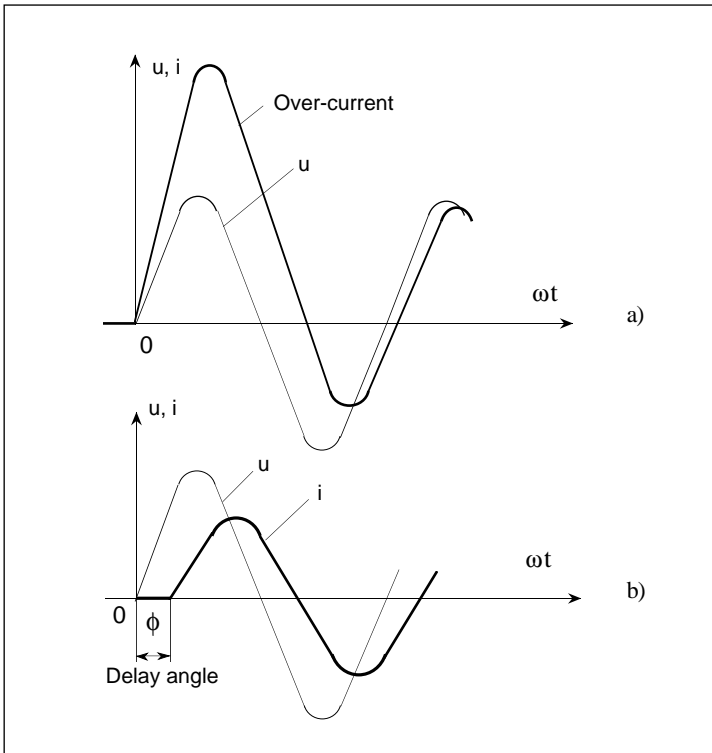

Figure 5-5 Inductive load switching at zero voltage (a) and with delay angle (b)
**For inductive non saturable loads**, in Single cycle and Burst mode without soft start, firing at zero voltage generates transient operation which could, in certain cases, induce the appearance of over-currents (figure 5-5,a) and a blow-out of the high speed fuse (thyristor protection).
To prevent this over-current, the first firing of the thyristors for **non-saturable** inductive loads can be **delayed** with reference to the corresponding zero voltage (figure 5-5,b). The optimum **delay angle** ( $\phi$ ) must be adjusted with the potentiometer on the driver board (see adjustment) as a function of the load (max. delay  $90^\circ$ ).